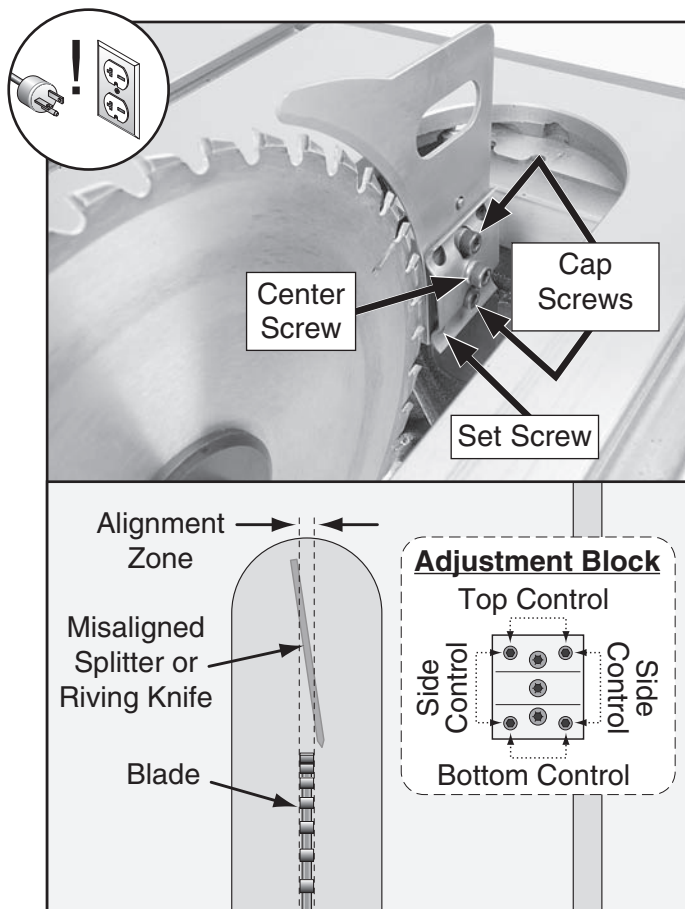

Figure 116. Set screws for adjusting spreader/riving knife position.
- Loosen the two cap screws on the mounting block, then adjust either the top or bottom control set screws or side control set screws (see **Figure 116**) to move it the needed direction.